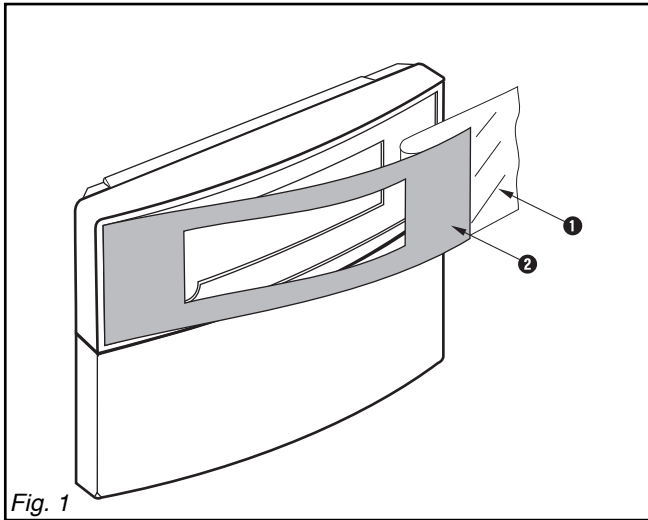
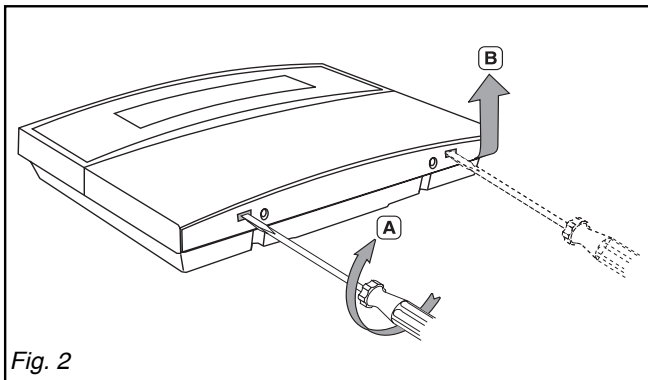
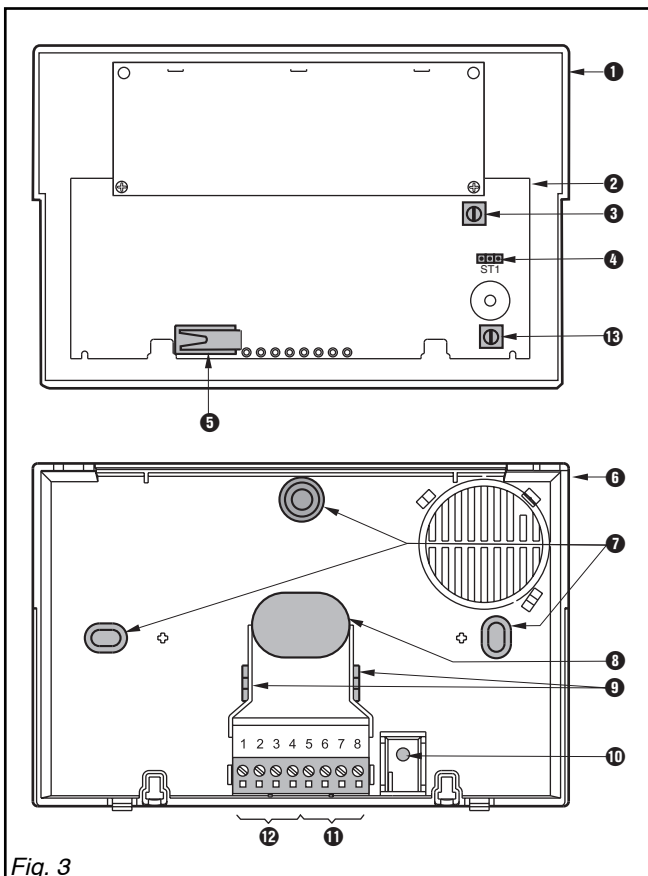

Fig. 1
Fig. 2
Fig. 3
3.1 Secure plastic front (fig. 1)
- 1 - Peel back the backing foil ① half way.
- 2 - Place the plastic front ② in the recess.
3.2 Open housing (fig. 2)
- 1 - Release both locking tabs (A) and remove top section (B).
3.3 Product overview (fig. 3)
- ① Mounting base,
- ② Circuit board SMK 53,
- ③ Potentiometer for the LCD,
- ④ Jumper for the buzzer volume,
- ⑤ Tamper contact,
- ⑥ Cover of the Keypad,
- ⑦ Mounting holes,
- ⑧ Cable inlet,
- ⑨ Cable clip,
- ⑩ Back tamper contact screw,
- ⑪ E-Bus connection,
- ⑫ Connection not used,
- ⑬ Potentiometer for buzzer volume.
3.4 Fit housing (fig. 3)
- 1 - Pull the cable through the cable inlet ⑧.
- 2 - Secure the mounting base ⑦ using two screws.
- 3 - Use the cable clip ⑨.